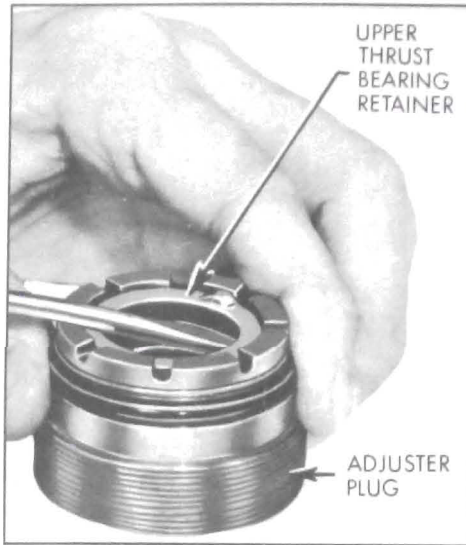

Figure 8-43—Removing Upper Thrust Bearing Retainer
1. Remove the upper thrust bearing retainer with a screw driver, being careful not to damage the needle bearing bore. See Figure 8-43. Discard retainer. Remove thrust bearing spacer, upper thrust bearing and thrust bearing races.